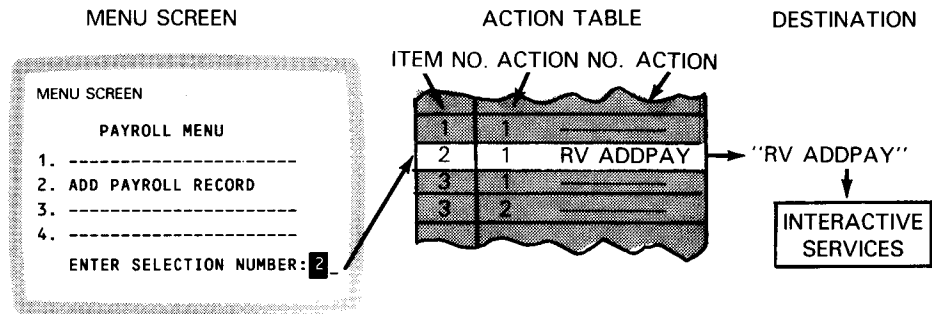

Figure 2-5. How the Action Table Works
Each action contains information telling the menu processor which item the action is associated with. When an item has more than one action associated with it, other information in the action tells the menu processor which action to take first, which second, and so on. Figure 2-5 shows how the menu processor uses this information when an operator makes a menu selection.
When the operator chooses item 2 of PAYROLL MENU in Figure 2-5, the menu processor searches the action table for any action linked to item 2. Finding one (the command RV ADDPAY), the menu processor pulls it out of the action field and sends it to interactive services for execution.